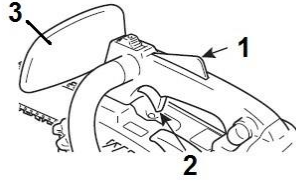

Fig. 7
2. Gradually press the accelerator (Fig. 7- ②) and the locking device (Fig. 7- ①) simultaneously to increase the engine speed.
4. Make sure that the chain stops when the throttle is released (Fig. 7- ②).